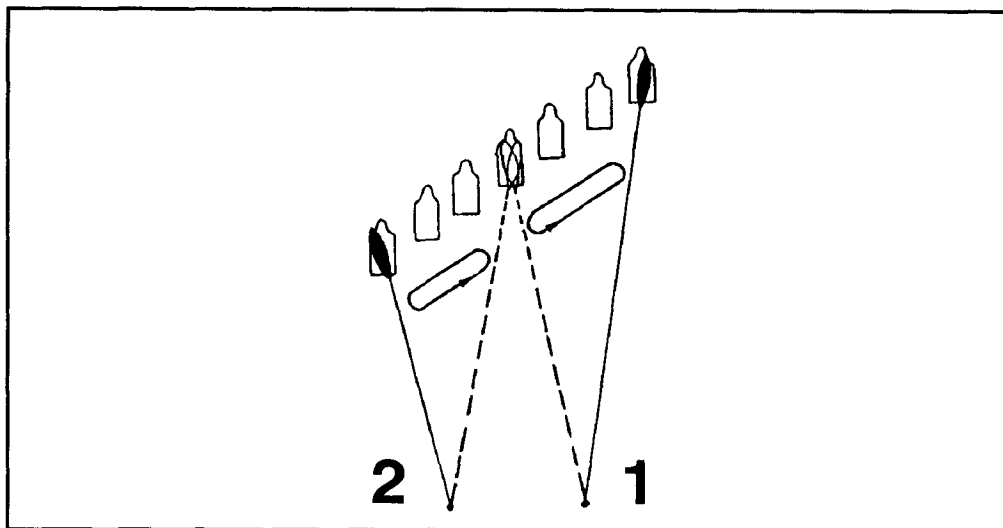

Figure 6-15. Engagement of linear targets with a pair of automatic riflemen.
(2) *Linear Target*. When using a pair of M249s to engage a linear target, the target is divided at midpoint with the automatic rifleman on the right of the target firing on the right half, and the automatic rifleman on the left of the target firing on the left half (Figure 6-15).